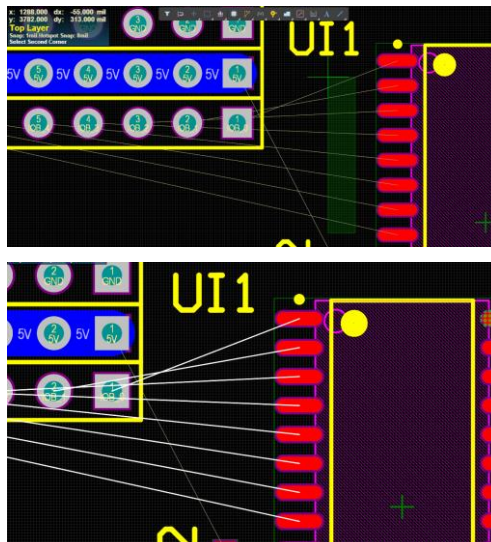

Figure 18. Select the Connection Lines to route the selected traces
41. Select the connection lines between UI1 (Pad 1 to 8) and IOS2 (Pad 1 to 8) by holding the **Alt** key followed by dragging your mouse from right to left around the connection lines, then let go of your mouse button to select them. This will create a selection rectangle and will highlight the connection lines as shown in Figure 18.